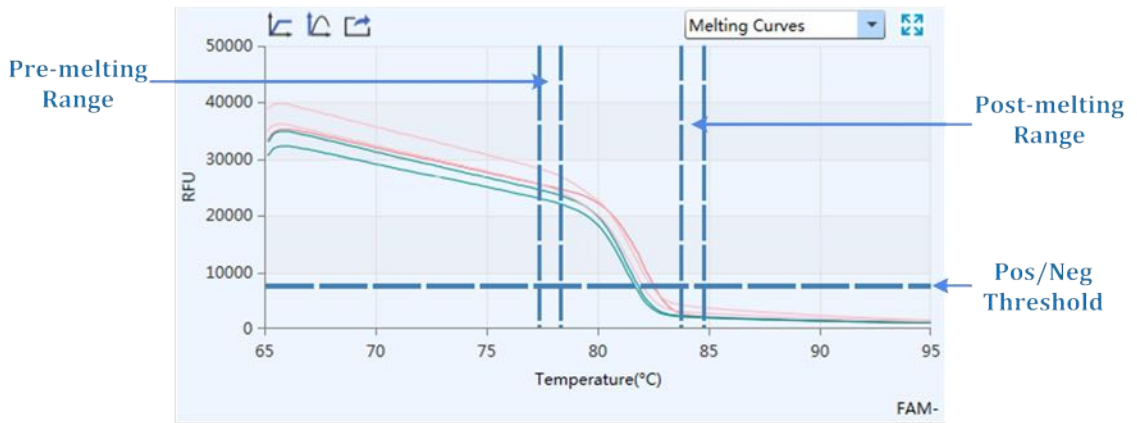

Figure D-14.1 HRM analysis interface - Melting Curves functional module
- I. **Melting Curves:** display the fluorescence intensity against the temperature, as shown in figure D-14.1.